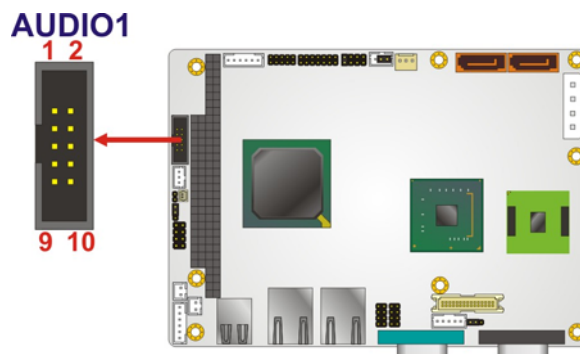

Figure 3-5: Audio Connector Pinouts (10-pin)
- CN Location:** See **Figure 3-5**